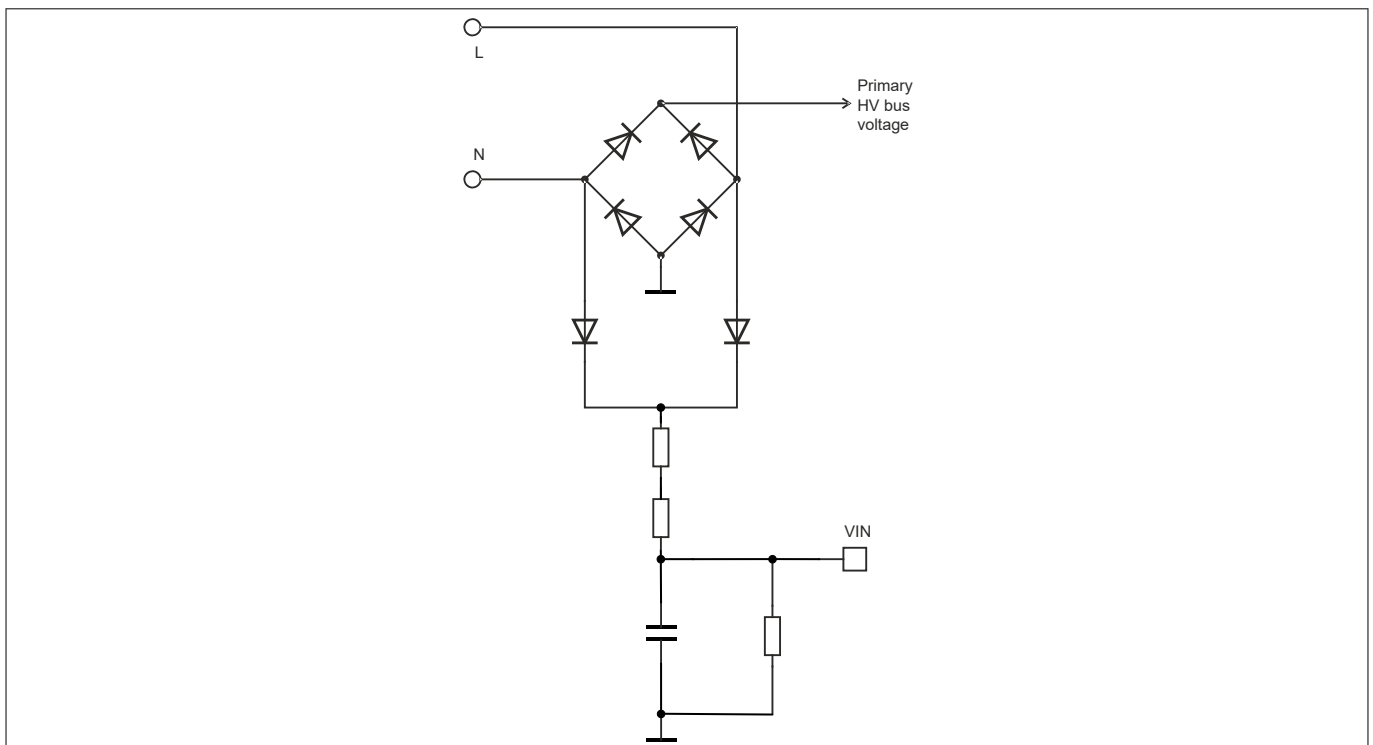
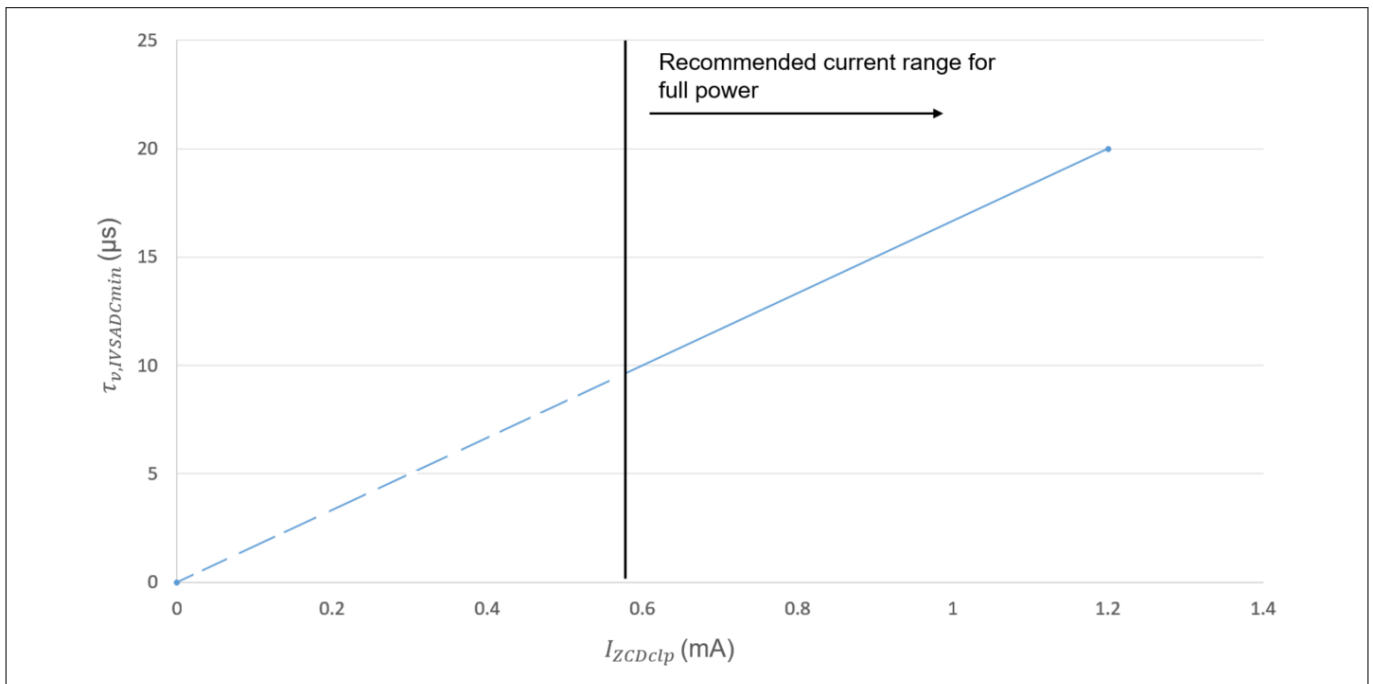
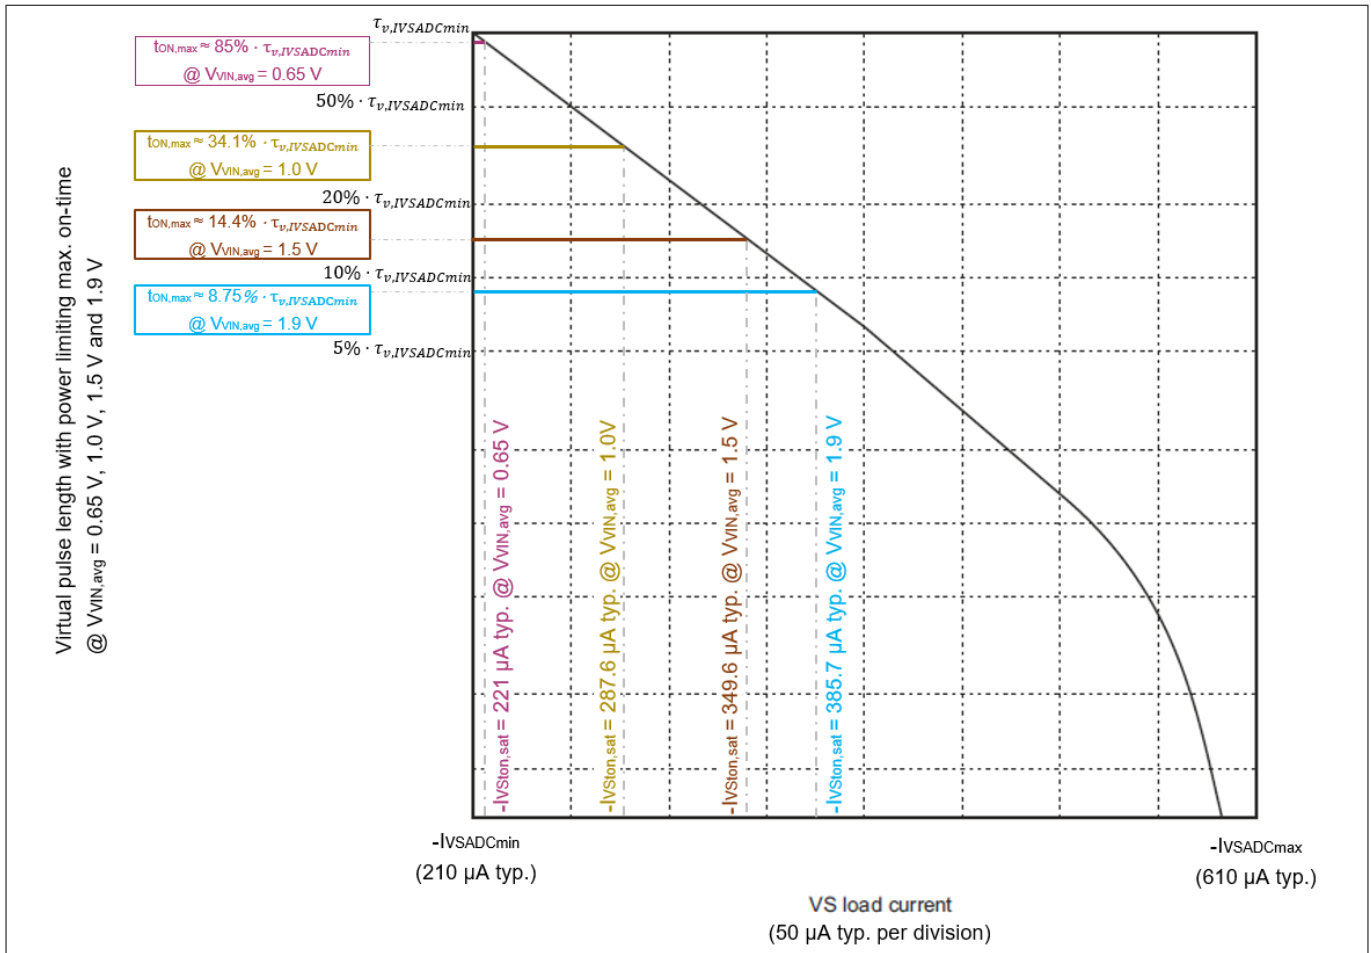

Figure 6 V_{IN} pin circuit
Figure 14 Virtual pulse length at $I_{VSADCmin}$, $\tau_{v,IVSADCmin}$ versus ZCD peak to peak settled clamping current, I_{ZCDclp}
Figure 15 Virtual pulse length mapping with power limiting maximum on-time effect
1. Based on $I_{ZCDclp} = 1.2 \text{ mA}$, obtain $\tau_{v,IVSADCmin} = 20 \mu\text{s}$ from Figure 14.
For $t_{ON,max}$ estimation, it is important to note that $\tau_{v,IVSADCmin}$ changes with different $V_{VIN,avg}$ level, when the input voltage detection circuit in Figure 6 is applied. This is because $\tau_{v,IVSADCmin}$ is scaled exponential depending on I_{ZCDclp} in Figure 14, while I_{ZCDclp} is dependent on the input voltage, as explained in ZCD pin signal sensing.
Figure 15 shows the virtual pulse length with the power limiting maximum on-time effect, when $V_{VIN,avg}$ is 0.65 V, 1.0 V, 1.5 V and 1.9 V, respectively.
When $V_{VIN,avg}$ is at the brownin level ($V_{BI} = 0.65$ V typ.), the power limitation is enabled with $t_{ON,max} = 85\%$ of $\tau_{p,IVSADCmin}$, as shown in Figure 15. For example, if the desired $t_{ON,max}$ at brownin level is 17 μ s typ., it is necessary to have $\tau_{p,IVSADCmin} = 17 \mu\text{s} / 85\% = 20 \mu\text{s}$. And, according to Figure 14, $\tau_{p,IVSADCmin} = 20 \mu\text{s}$ is obtained when $I_{ZCDclp} = 1.2$ mA is applied. As a result, to achieve $t_{ON,max} = 17 \mu\text{s}$ typ. at brownin level, R_{ZCD} should be dimensioned to produce $I_{ZCDclp} = 1.2$ mA typ. at brownin level.